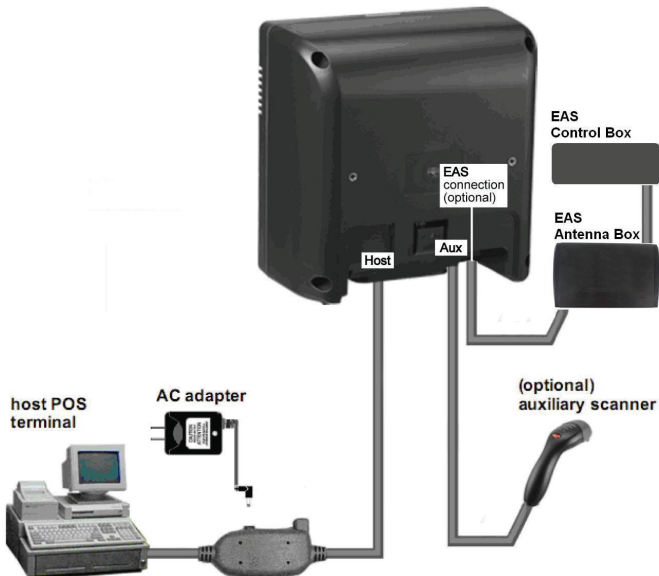

Figure 4: Cable Installation
Follow the steps below when you need an external power connection to the scanner (Refer to Figure 4):
2. Plug the cable to the appropriate connectors on the scanner and the EAS system as illustrated in Figure 4.